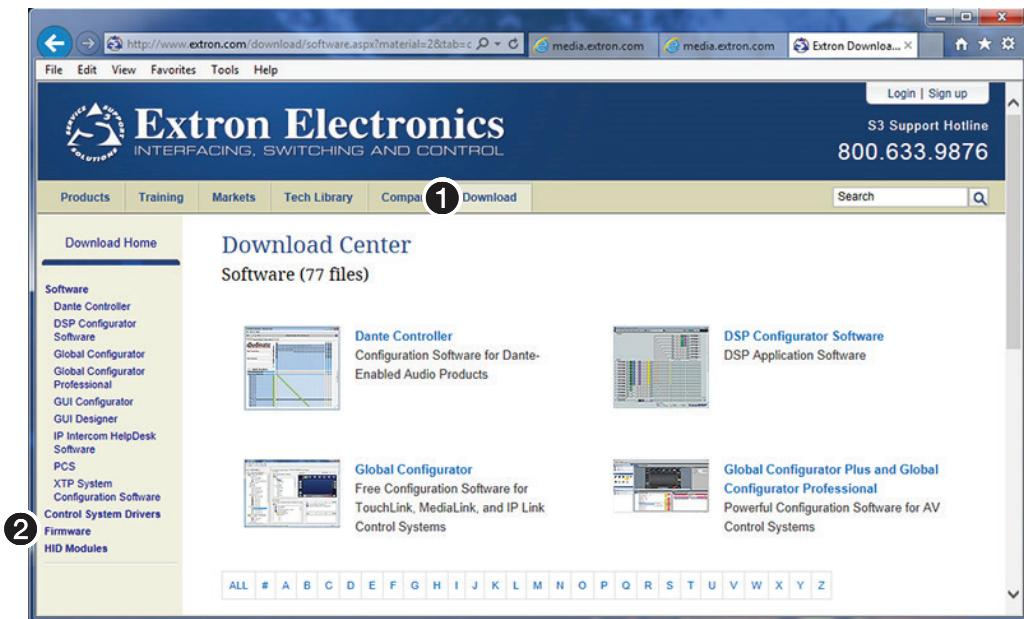

Figure 18. Locate Firmware
- On the the Extron website, click on the **Download** tab (see figure 18, ①).
- From the left sidebar, click the **Firmware** link (②).